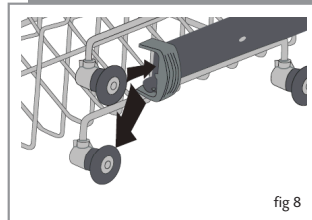

fig 8
2. Remove the upper basket, and relocate the alternate set of wheels on the runner, as shown in figure 8, pushing the basket back into place.